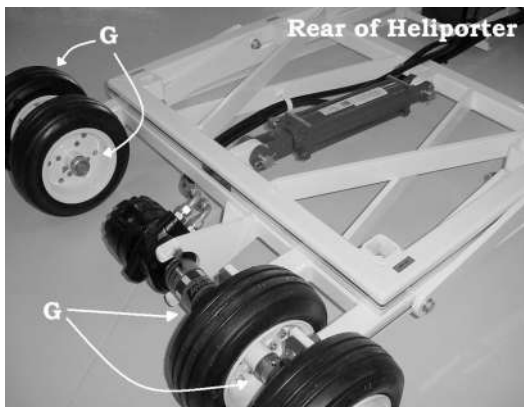

**Fig. 2**
**Service Points:** (See Figs. 2, 3, and 4)
1. Check the battery fluid levels monthly. Fill to proper levels if low. (Fig. 2).
8. Grease all zerks, a minimum of twice yearly. The wheel bearings should be greased more often, as usage and environmental conditions dictate. (Fig. 2 & 4).